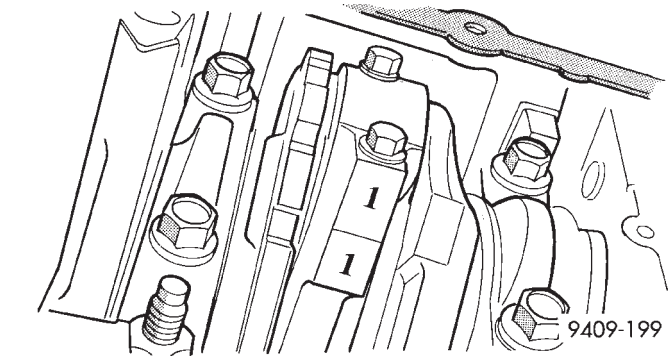

Fig. 115 Identify Connecting Rod to Cylinder
- (2) Remove oil pan. Scribe the cylinder number on the side of the rod and cap (Fig. 115) for identification.